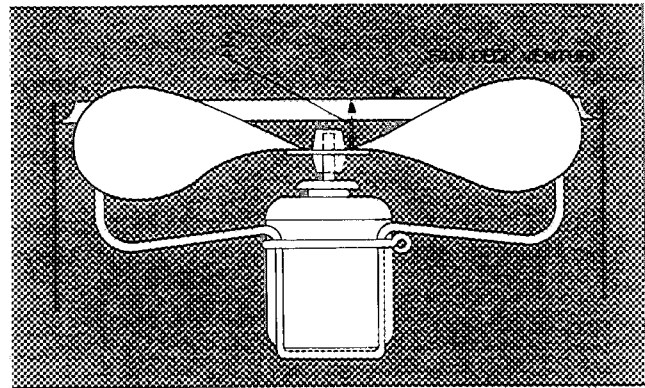

Fig. 24 — Outdoor Air Fan Adjustment
**Outdoor (Condenser) Air Fan Adjustment** (Fig. 24) — Shut off unit power supply. Remove fan guard and loosen fan hub setscrews. Adjust fan height using a straight edge laid across venturi. Tighten setscrews and replace rubber hubcap to prevent hub from rusting to motor shaft. Fill hub recess with permagum if hub has no rubber hubcap.